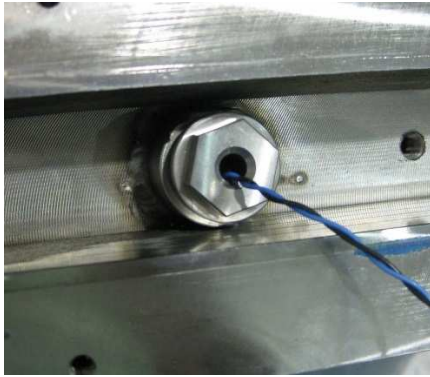
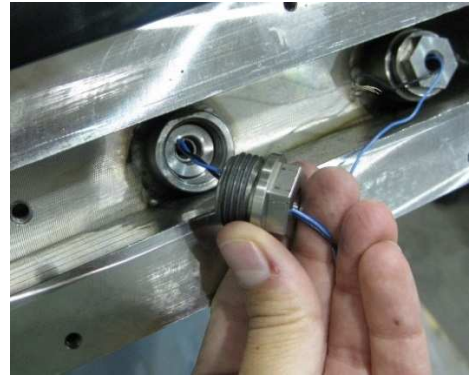

Figure 7-9 Transducer
Figure 7-10 Transducer, Compression Screw Removed
3. Remove the transducer internals using an O-ratchet T-socket head ($\frac{1}{2}$ -in. socket for the $\frac{1}{2}$ -in. or 12.5-mm transducer housing and $\frac{3}{4}$ -in. (19-mm) socket for the 1-in. or 25-mm transducer housing). Typically 4-in. to 10-in. meter bodies contain $\frac{1}{2}$ -in. transducer housings; 12-in. and larger meter bodies contain 1-in. housings. Figure 7-9 reflects an installed transducer once the manifold cover is removed, while Figure 7-10 shows the compression screw removed, revealing the transducer internals.